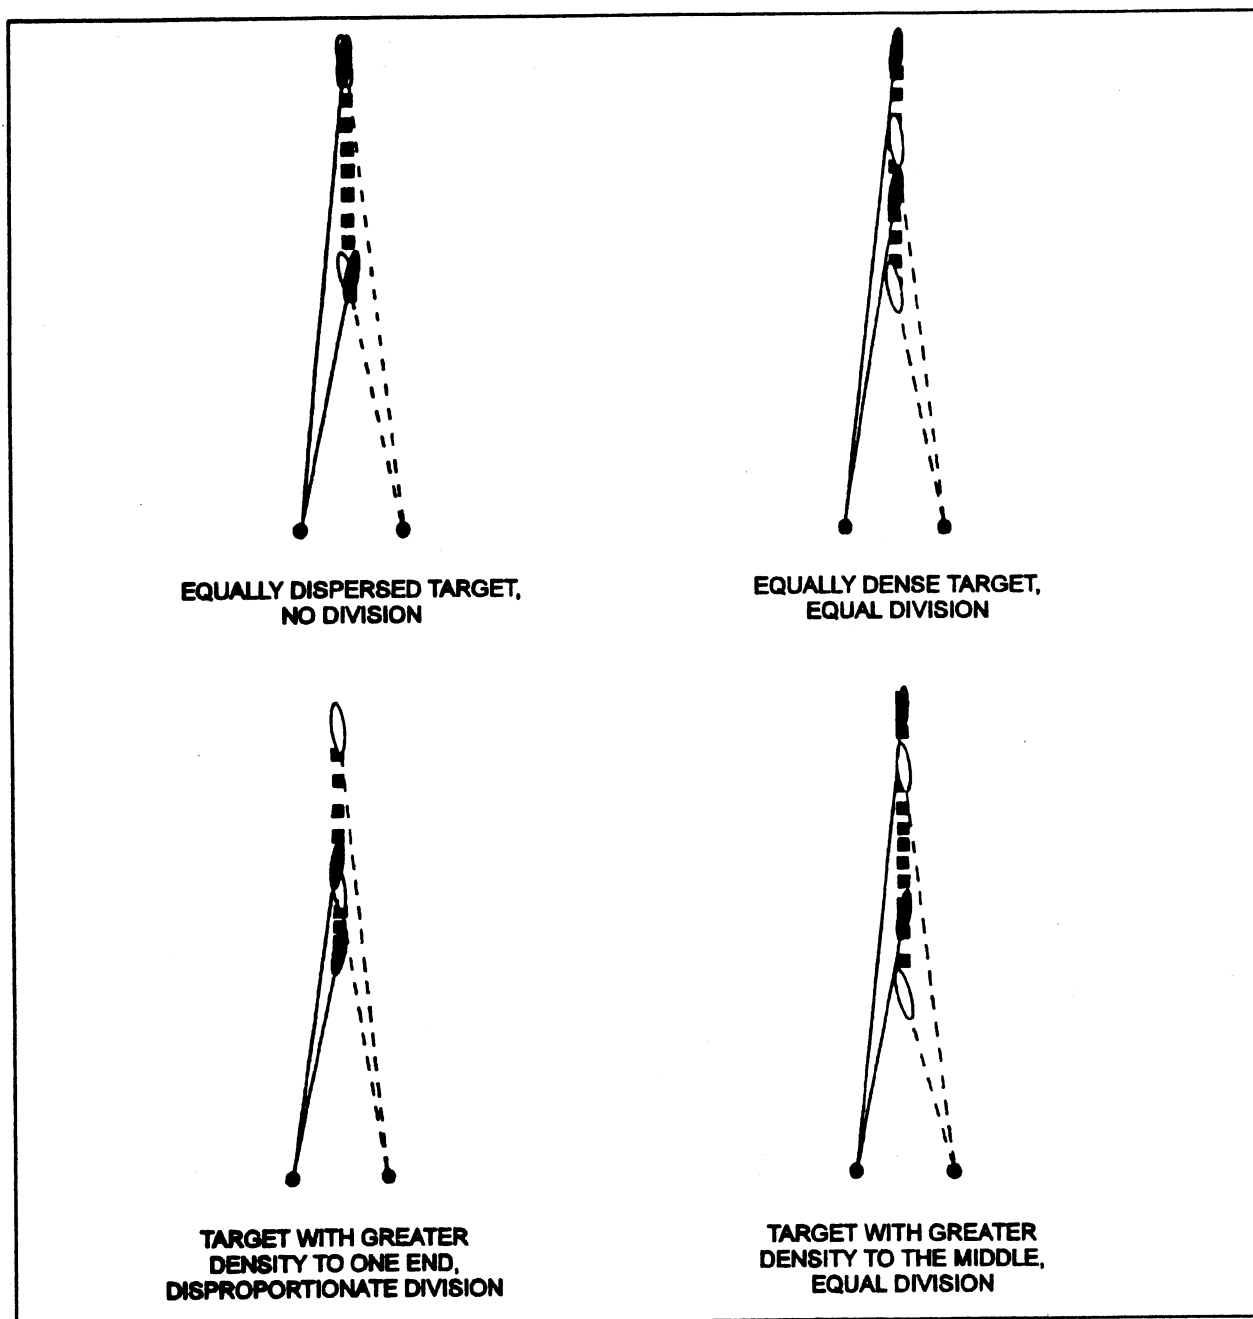

Fig 4-3. Target distribution.
- (3) Once your rounds are impacting at the near limit of the target, search to the far end. Completely cover the target by firing and adjusting.
- (4) After firing each six-round burst, immediately search 2 mils by turning the elevating handwheel two clicks. To search up, push right up to turn the handwheel to the left. To search down, pull left down to turn the handwheel to the right.
b. If you are deployed as a squad, your squad leader has several options. He may assign a deep target just to your gun (described above) or he may assign sectors of the target to each of the two guns. As with wide targets, his assignments are based on the density and depth of the target. The squad leader must keep in mind that the length of the beaten zone varies depending on the slope of the terrain and the range. Additionally, he must consider the possibility of existing dead space. If the target is more dense at one end or in the center, the squad leader can assign your gun team and your fellow gun team unequal portions of the target (demonstrated in fig 4-3).